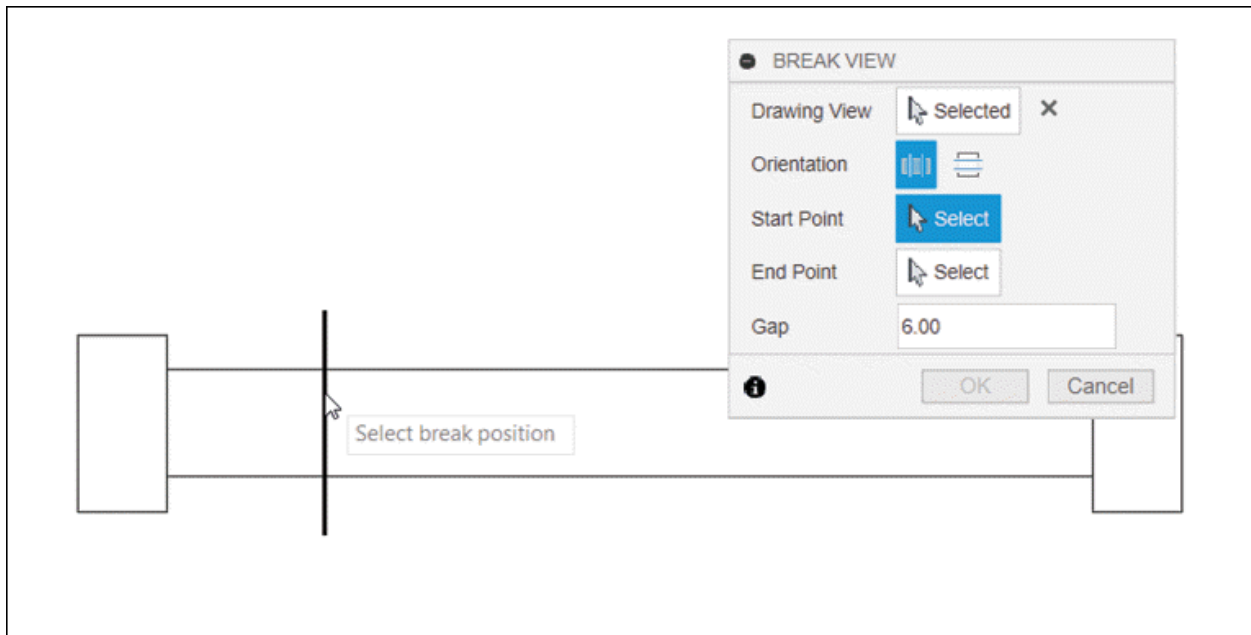

Figure-27. Selecting start point of break position
- Select the start point of break position using the **Start Point** selection button; refer to Figure-27. You will be asked to select end point of break position.